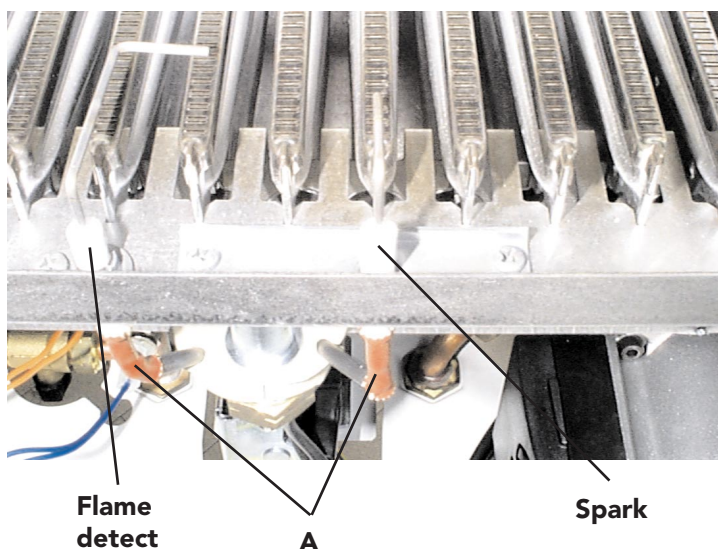

Fig. 41
7.12 Spark or flame detect electrode (fig. 41)
- Identify electrode from fig. 41